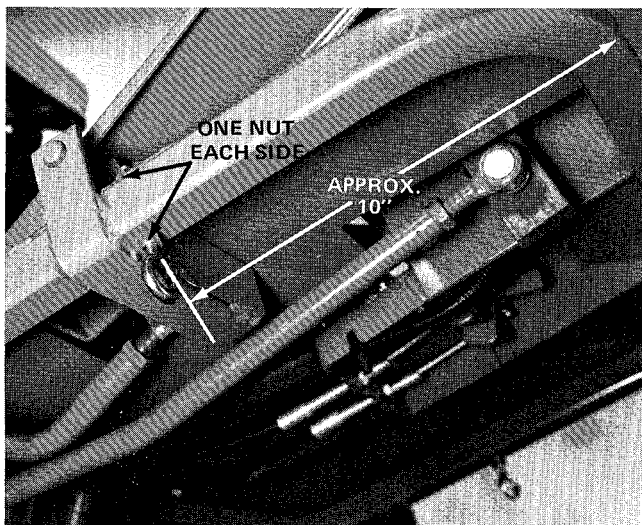

Figure 8
9. Mounting holes must be drilled in front frame tube to install eyebolts for floatation springs. Locate position for mounting holes (Fig. 8), and drill a 7/16 inch hole through both walls of tubing on each side of tubing.
10. Attach eyebolts to frame (Fig. 8).